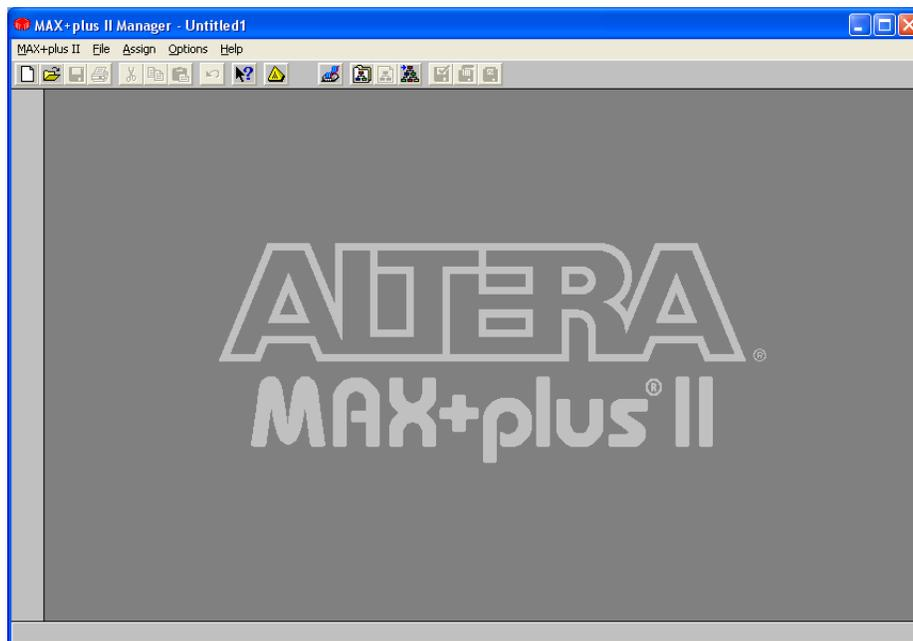

Figure 2
- 4) Start the **Altera Max + Plus II Programming Software**. If it starts correctly, a screen as shown in **Figure 2** should be displayed. If it does not, an expert from **Table 1** should be contacted.